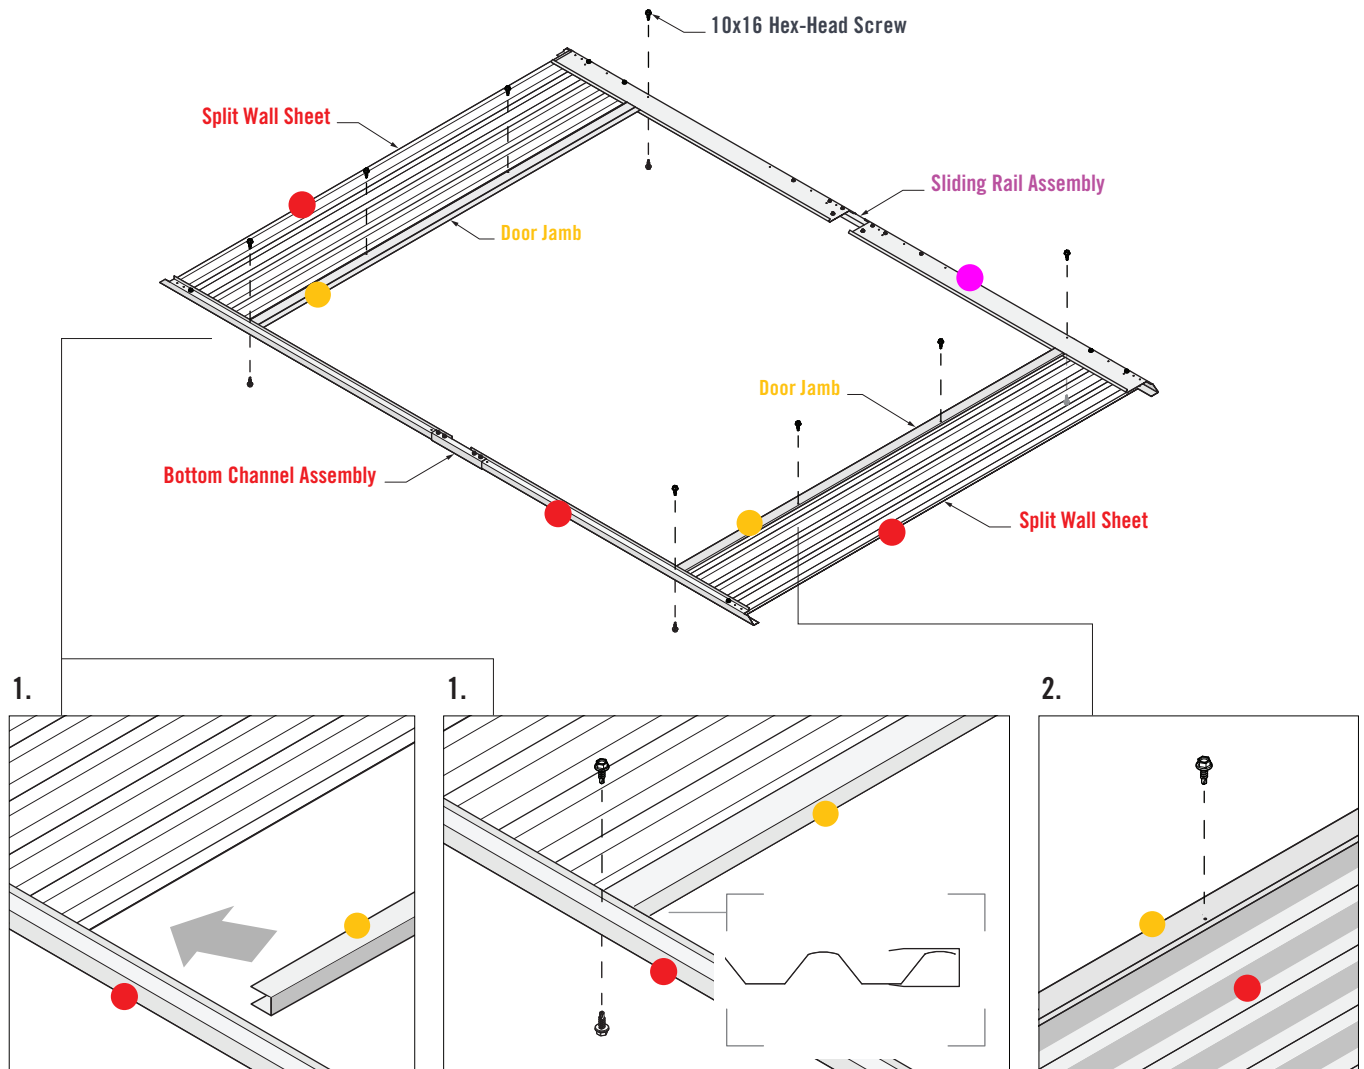

FIGURE 5.3
1. Fit the **Door Jambs** into the **Bottom Channel Assembly** and **Sliding Rail Assembly**. Position the **Door Jambs** over the Wall Sheets. Fasten both **Door Jambs** to the Channel Assemblies with eight 10x16 Hex-Head Screws (Figure 5.3).
2. Fasten four 10x16 Hex-Head Screws through pilot holes of the **Door Jambs** and into to the Wall Sheets (Figure 5.3).